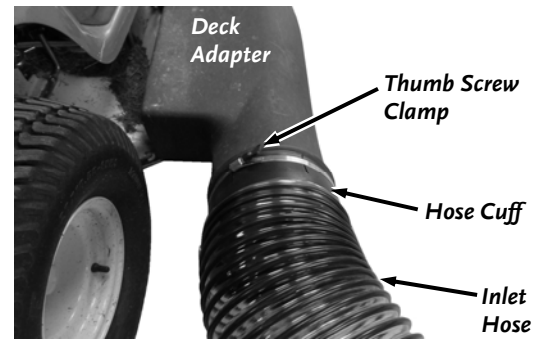

Figure 52
1. Connect the Inlet Hose to the Deck Adapter by sliding the Hose Cuff over the Hose Adapter (**Figure 52**).